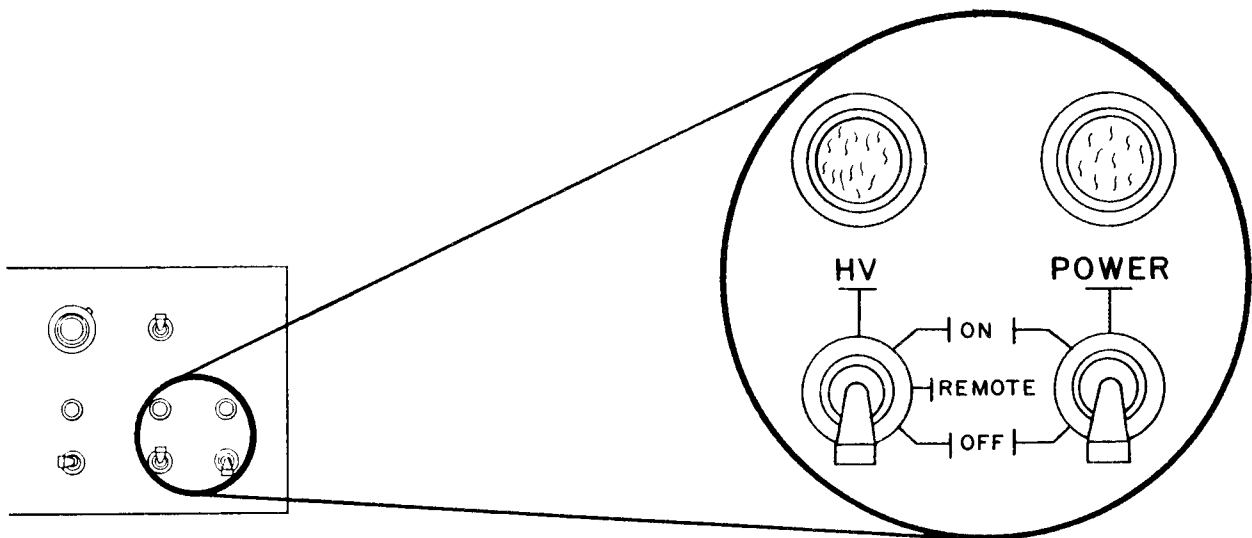

Figure 44. POWER and HV Switches to OFF
- a. Ensure the POWER switch and the HV switch are set to OFF (see Figure 44).